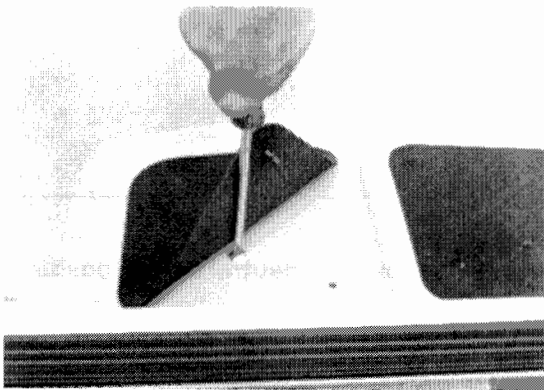

Figure 5-12
2. Remove two screws (10) and locknuts (14) located under mats in bagwell bottom (**Figure 5-12**).